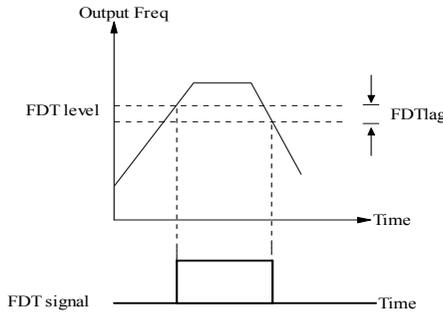

Fig. 5-3-9 Frequency detection FDT
- ◆ When the output frequency rises to a certain preset frequency (frequency detection threshold), the related terminal output will be valid. We called the preset frequency FDT level. In the dropping of output frequency, the related terminal output signal keeps on until the output frequency drops to another certain frequency below FDT level, which is called release frequency (Release frequency=FDT1 level-FDT1 lag), as shown in Figure. 5-3-9.